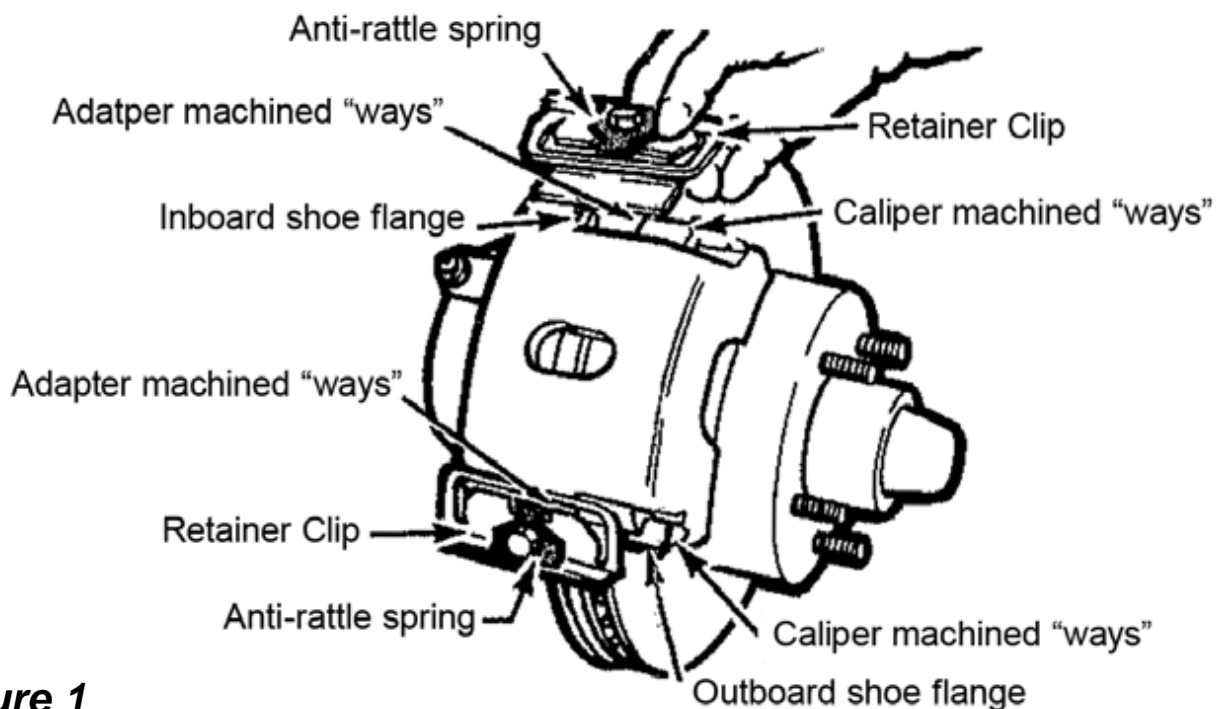

Figure 1
2. Remove caliper retaining clips and anti-rattle springs (Fig. 1, previous page)